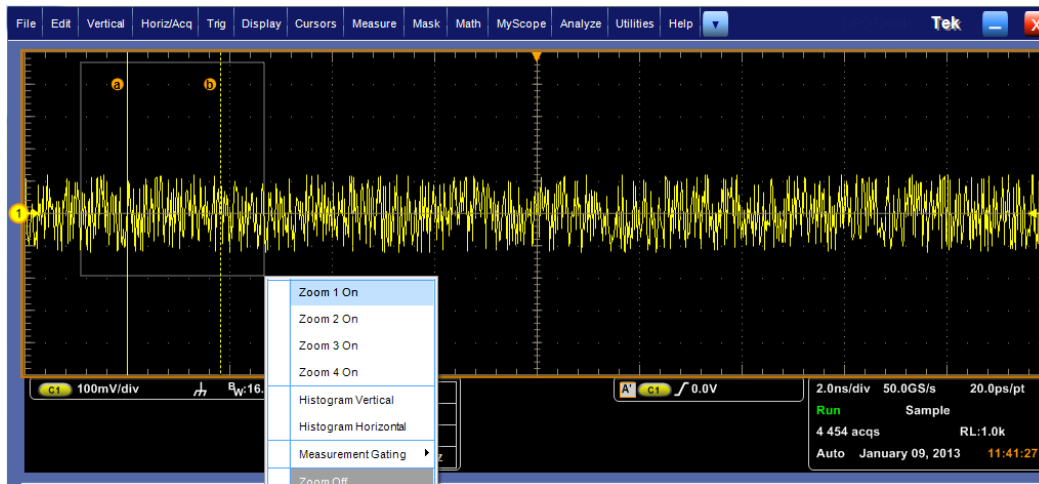

Figure 9 Using zoom feature
7. Turn on the Zoom feature of the TekScope. Select a region of interest using the mouse to bring up a menu and choose Zoom1 On. Refer to Figure 9.